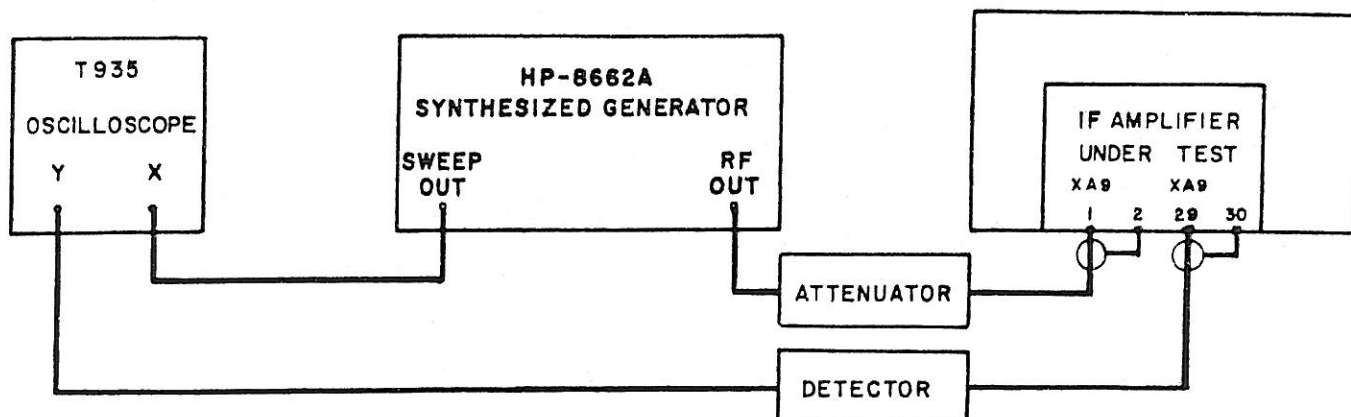

Figure S-3. IF Amplifier Alignment, Equipment Connections
4. Connect the test equipment as illustrated in **Figure S-3** except, connect the attenuator output to the input of the 50Ω detector.
6. Connect the test equipment as illustrated in **Figure S-3** with the attenuator set to compensate for the gain of the selected IF Amplifier module. Vary the attenuator setting and the signal generator output as required to return the detected display to the reference level set in step 5.
4. Connect the test equipment as illustrated in **Figure S-3**, except connect the attenuator output to the input of the 50 $\Omega$  detector.
6. Connect the detector and attenuator as illustrated in **Figure S-3** and increase the attenuator setting to the dB level listed in the Gain column of **Table S-3**, corresponding to the Switchable IF Filter Amplifier under test.